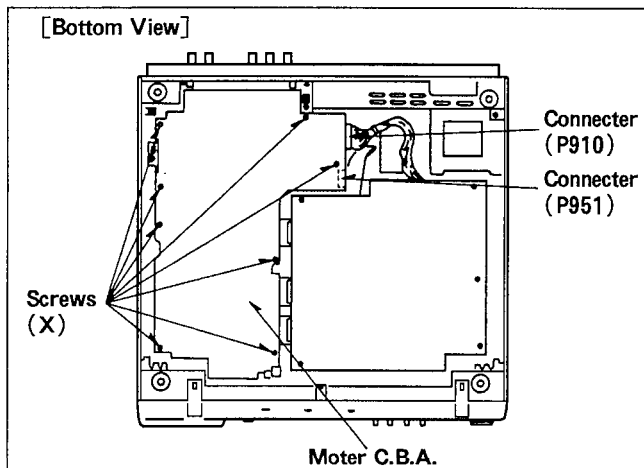

Figure D30
1. Unscrew the 8 screws (X) on the Mother C.B.A. (Figure D30)
2. Lift the Mother C.B.A. and then disconnect the 2 connectors (P910 and P951). (Figure D30)